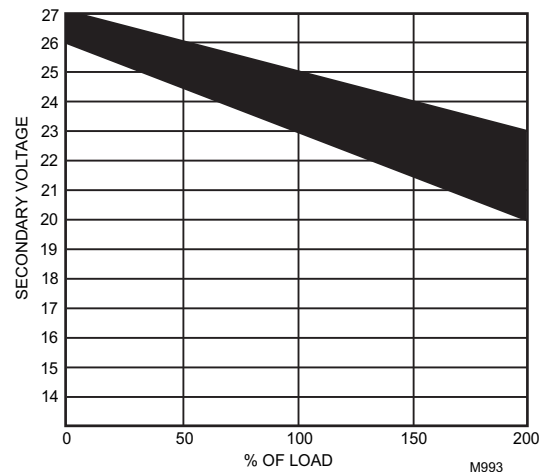

Fig. 3. NEMA Class 2 transformer voltage output limits.
This means that four volts are going to be lost between the transformer and the device. To assure the device receives at least 20 volts, the transformer must output more than 24 volts. Because all transformer output voltage levels depend on the size of the connected load, a larger transformer outputs a higher voltage than a smaller one for a given load. Fig. 3 shows this voltage load dependence.
In the preceding I x R loss example, even though the device load is only 37 VA, a standard 40 VA transformer is not sufficient due to the line-loss. Looking at Fig. 3, a 40 VA transformer is just under 100 percent loaded (for the 37 VA controller) and has a secondary voltage of 22.9 volts. (Use the lower edge of the shaded zone in Fig. 3 that represents the worst case conditions.) When the I x R loss of four volts is subtracted, only 18.9 volts reaches the device. This is not enough voltage for proper operation.
1. Use a larger transformer. For example, if an 80 VA model is used, an output of 24.4 volts, minus the four volt line-loss, supplies 20.4V to the device (see Fig. 3). Although acceptable, the four-volt line-loss in this example is higher than recommended.
To meet the National Electrical Manufacturers Association (NEMA) standards, a transformer must stay within the NEMA limits. The chart in Fig. 3 shows the required limits at various loads.